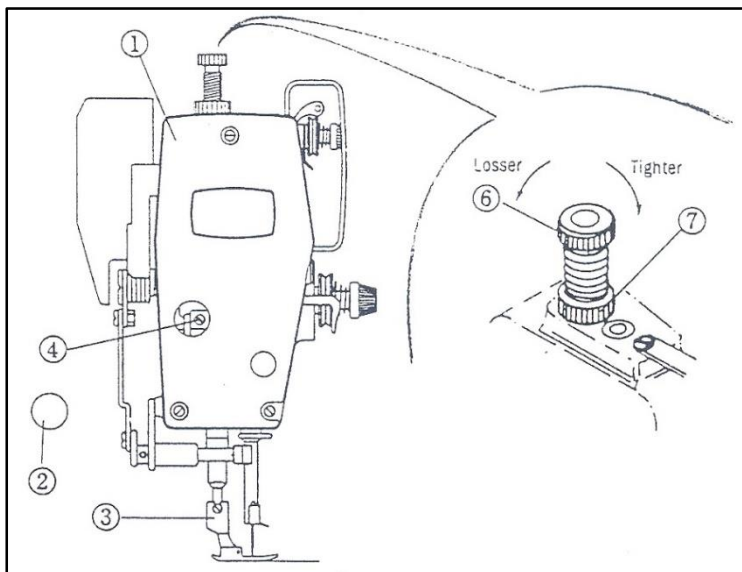

Figure 7.10
A. As shown in Fig. 7.10, remove the rubber plug (2) from the cover plate (1). With the needle in the 'up' position and the presser foot (3) also in the 'up' position make sure the needle point is not showing below the presser foot. If the needle point is visible then release the presser bar holder screw (4) and adjust the holder until the foot covers the needle. Once the adjustment has been carried out check the presser foot will both clamp the jig in the 'down' position and also allow the jig to be loaded in the 'up' position.
B. Adjustment of the presser foot pressure. As shown in Fig. 7.10 rotating the adjusting screw (6) clockwise increases the foot pressure. After adjustment use nut (7) to lock adjusting screw '6' in position.